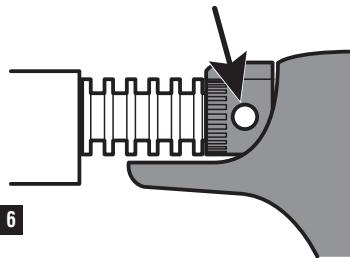

FIG. 6
- a. Open the Air Control Knob by aligning it as shown in Figure 6.